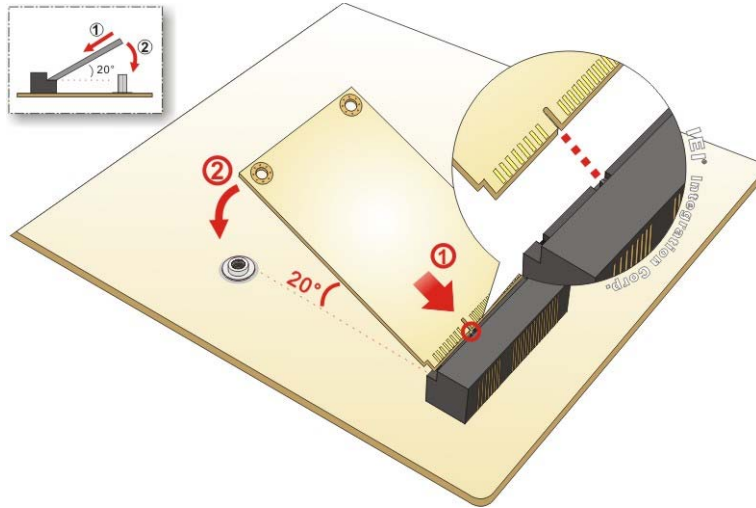

Figure 3-12: Installing an mSATA Module
Step 5: Line up the notch on the mSATA module with the notch on the connector. Slide the PCIe Mini card into the socket at an angle of about 20° (**Figure 3-12**).
Step 6: Secure the mSATA module with the retention screw. Push the other end of the mSATA module down and secure the module with the previously removed retention screw (**Figure 3-12**).